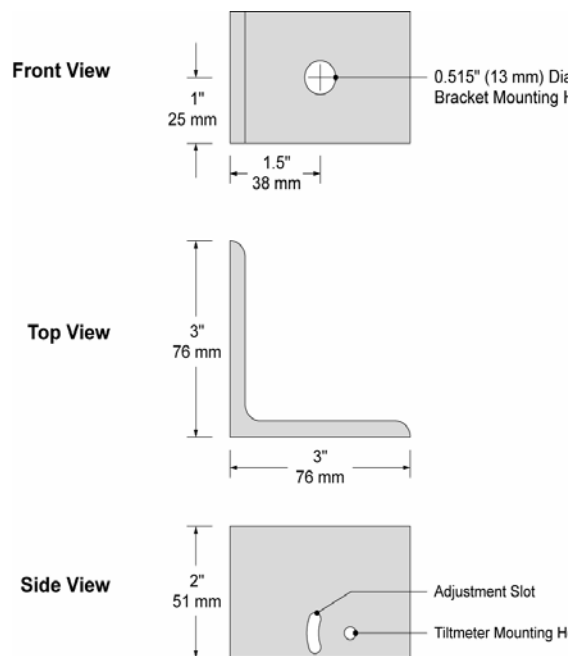

Figure 4 - Tiltmeter Mounting Bracket
1. The first step is to install the uniaxial/biaxial mounting bracket (see Figure 4), which is designed for mounting on vertical walls.
should be closest to the opening. Using the supplied setting pin tool and a hammer, set the anchor with 2 or 3 sharp blows on the setting pin. Thread the supplied 3/8-16 anchor rod into the anchor. Attach the mounting bracket to the anchor rod using the supplied hardware as illustrated in Figure 4. Use a bubble level or other leveling device to align the bracket so that the transducer mounting face is vertical. Now tighten the 3/8-16 nut.